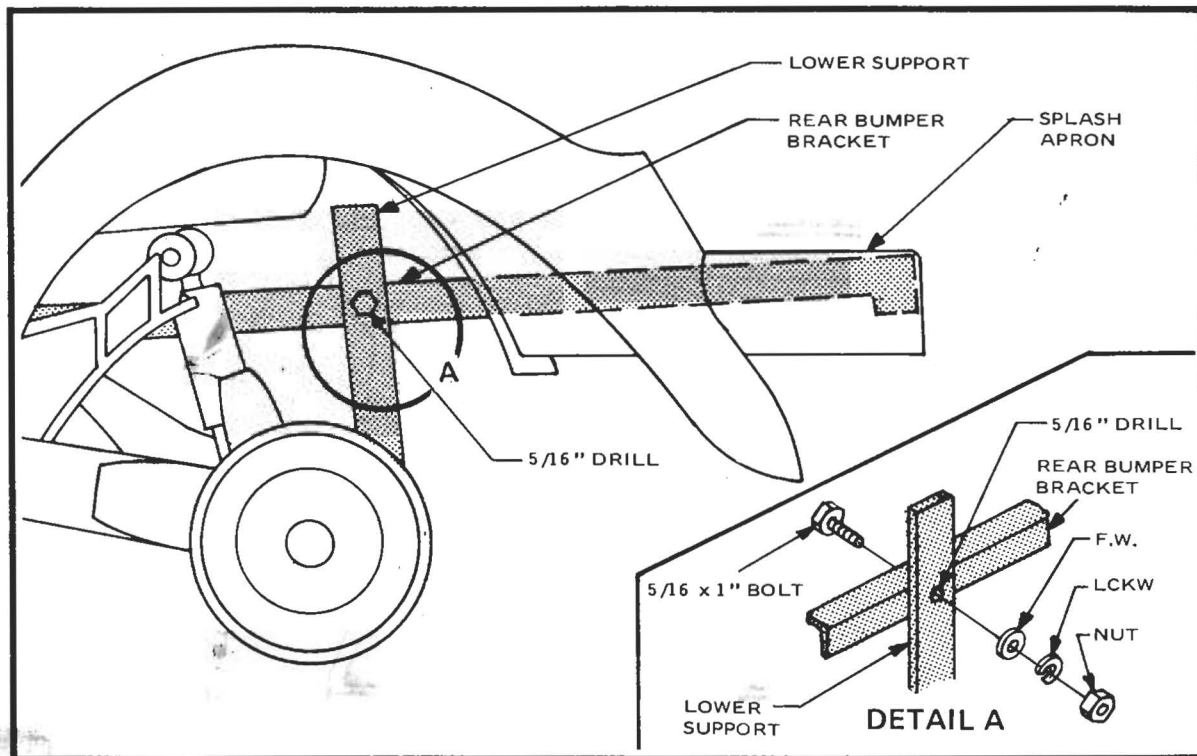

Figure 34
- At this time raise the rear bumper bracket up until it contacts the splash apron. Working through the rear fender well, drill through the main bracket and the lower support (Figure 34). Bolt with 5/16 x 1" bolts, nuts and lockwashers.